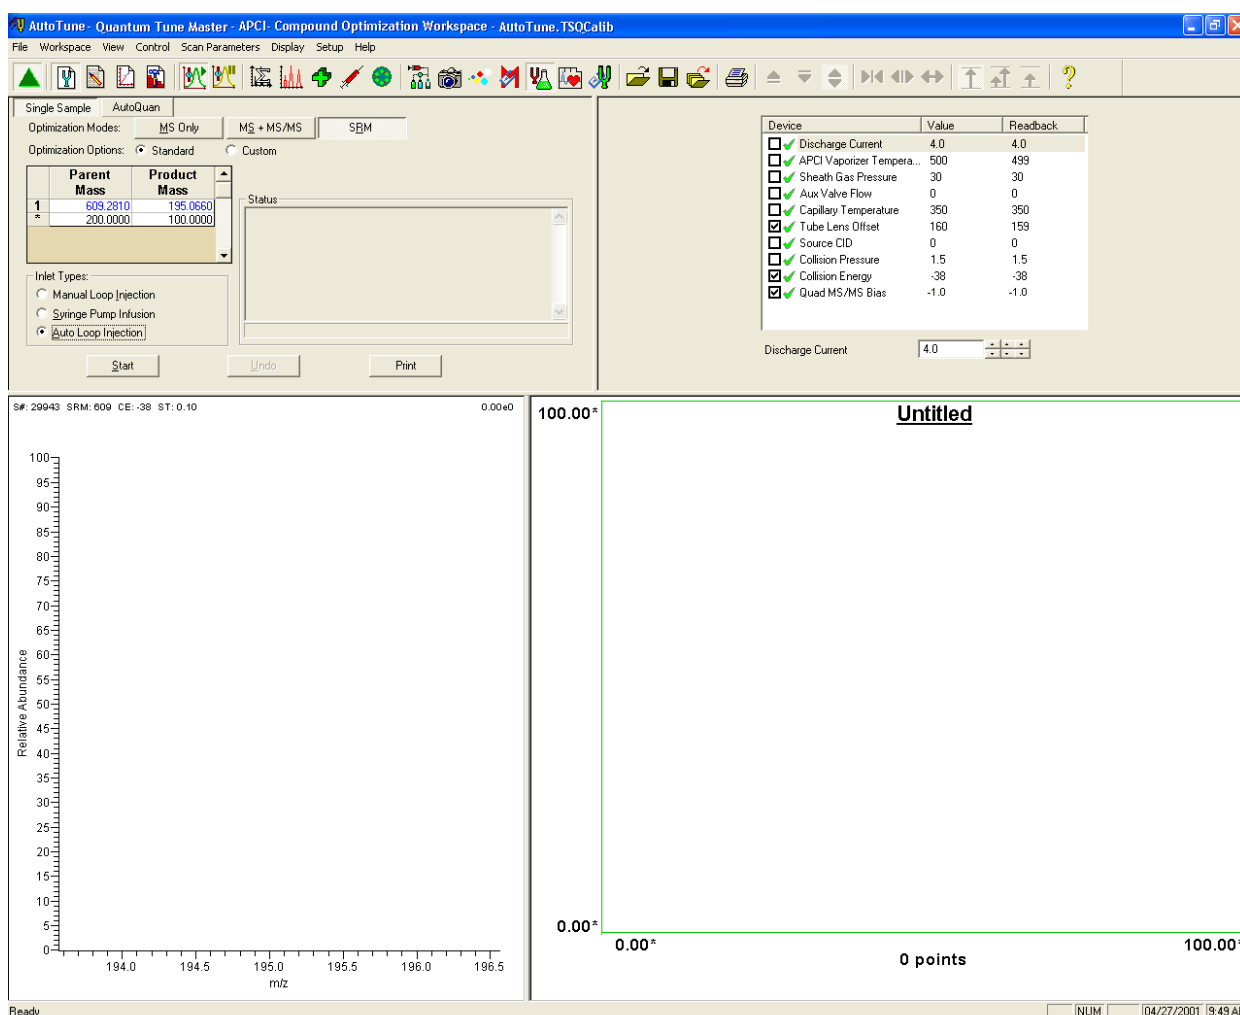

Figure 7-8. Compound Optimization workspace, APCI mode
1. In Tune Master, on the Control / Scan Mode toolbar, click on the Compound Optimization Workspace button to display the Compound Optimization workspace. See Figure 7-8.